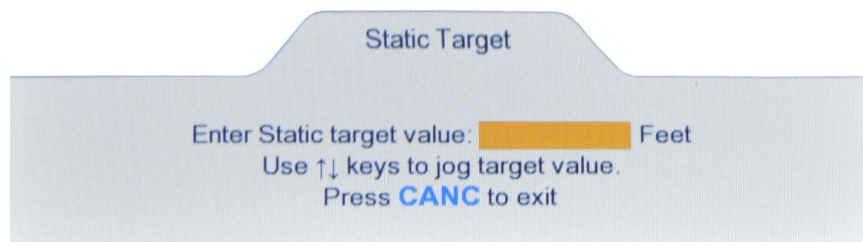

Figure 3.9 : Static Target value
The Static Target value can be changed only if the key# symbol (6) is displayed to the right of the Static Target value field. Press key '6' on the keypad and the Lower section of the display will appear as shown in Figure 3.9 below.
If the Target value needs to be changed in small increments, instead of entering a value, the arrow keys may be used to Jog the Target value up or down. If the current Static Target value is 0 Feet, and the Lower screen appears as in Figure 3.9 above, pressing the **Up-Arrow** key will make the screen appear as shown in Figure 3.10 below.